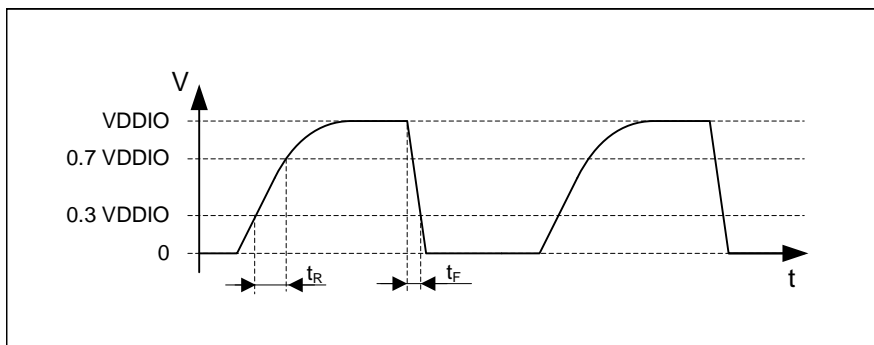
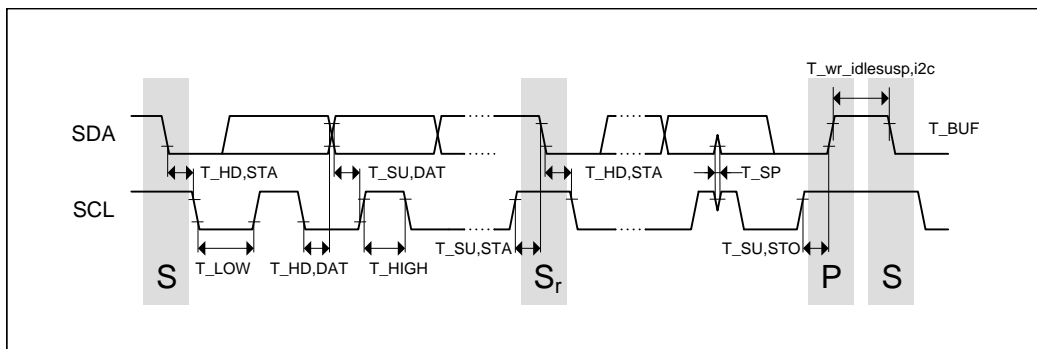

Figure 36: Definition of rise- and fall-time of I²C interface signals
Figure 37: I²C timing diagram
**I2C Timing specification** The I2C timing specification of the device is given in Table 21, figure 36 and figure 37.